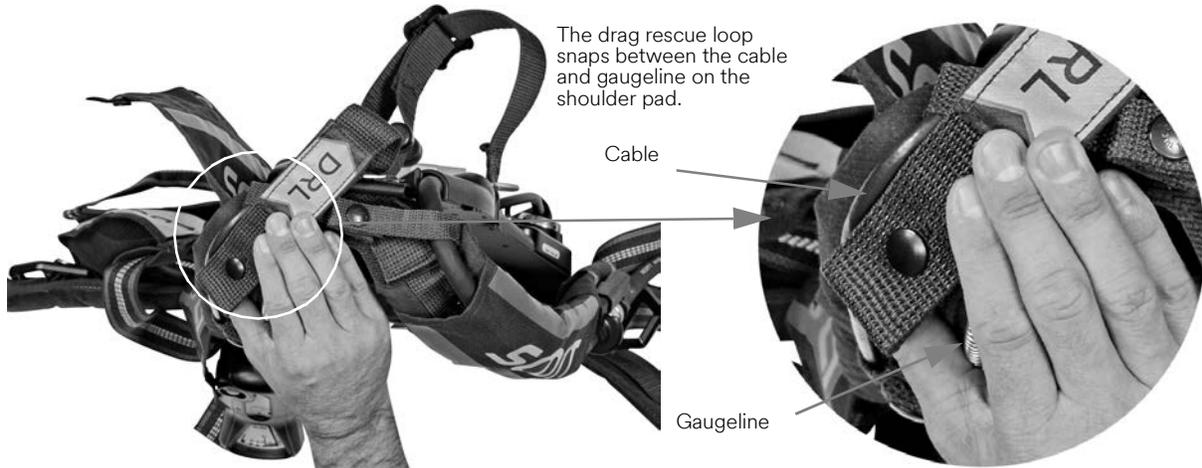

Figure 2-29 Securing the drag rescue loop
- 7 Snap the fastener on the drag rescue loop together and then snap the loop to the shoulder pad. See Figure 2-29. Ensure that the cable and gaugeline are positioned on **opposite** sides of the snap.